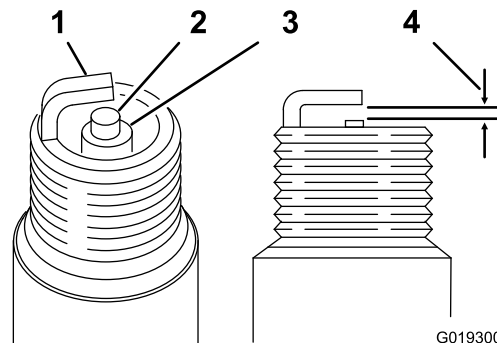

Figure 34
3. Set the air gap at 0.6 to 0.7 mm (0.024 to 0.028 inch) as shown in Figure 34. Install the correctly gapped spark plug and tighten it firmly to 23 N·m (17 ft-lb).